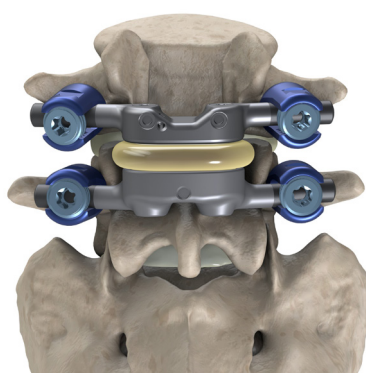

Figure 43: Intraoperative AP and lateral images before suturing the patient closed
- iii. Verify TOPS positioning under direct visualization. Take a lateral and AP image to confirm proper alignment (Figure 43).